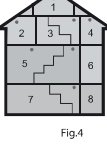

Fig.4
- Use the screws to fix the base plate in the place chosen, Pay attention to the figure above(Fig.4-Fig.8).